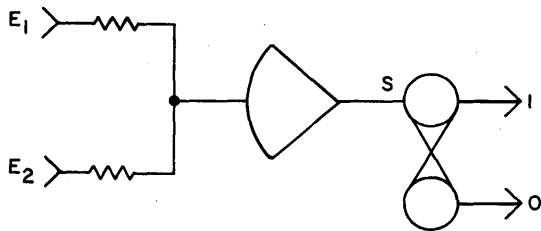

Figure 5. Analog Comparator, Block Diagram
(1) *Comparator.* The comparator is shown in block diagram form in Figure 5. The input signals are applied to resistors and summed at the junction. This junction is applied to a high gain amplifier, which in turn is applied to a flip-flop. When the sum of the inputs is positive, a negative signal from the amplifier sets the flip-flop with the 1 output to a binary ONE and the 0 output to a binary ZERO. Like wise, when the sum of the inputs is negative, the 1 output is binary ZERO and the 0 output is binary ONE.